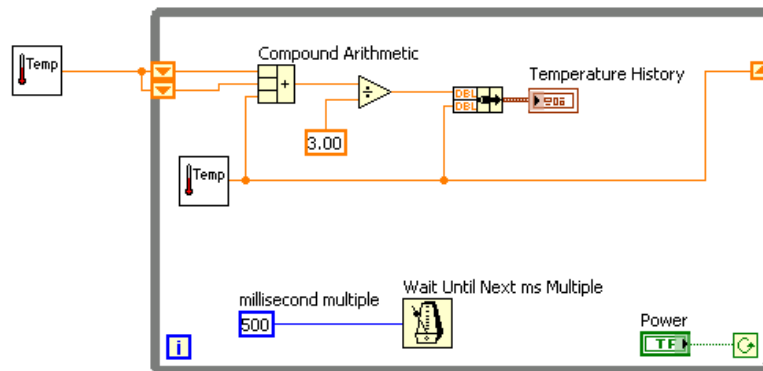

Figure 5.11
1. Modify the block diagram as shown in Figure 5.11.